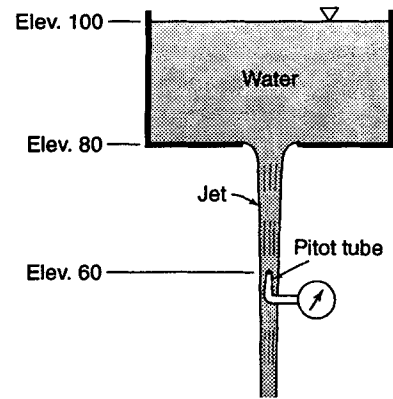

Figure P11.25
11.25 In Fig. P11.25 the orifice at the bottom of the large open tank has a diameter of 1.27 in. If the flow rate is 0.19 cfs, and the pitot tube registers a pressure of 16.8 psi, find the C_c and the C_v of the orifice. Neglect air resistance.